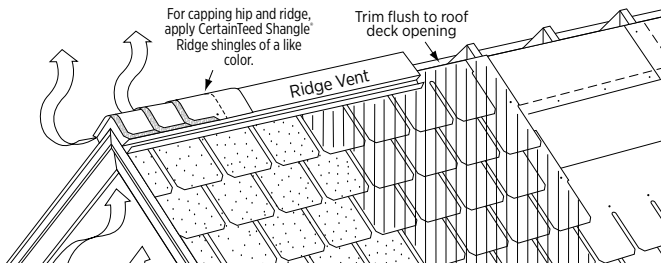

Figure 16-17: Installation of Shingle Ridge shingles on ridge vent.
8. If shingle-over ridge vents are being installed (see Figure 16-17), they must match the 12" (305 mm) width dimensions of the hip and ridge caps. Be sure to follow the ridge vent manufacturer's instructions. To attach the cap shingles to the shingle-over ridge vent, use hot-dipped galvanized nails of sufficient length to penetrate 3/4" (19 mm) into, or through, the deck.